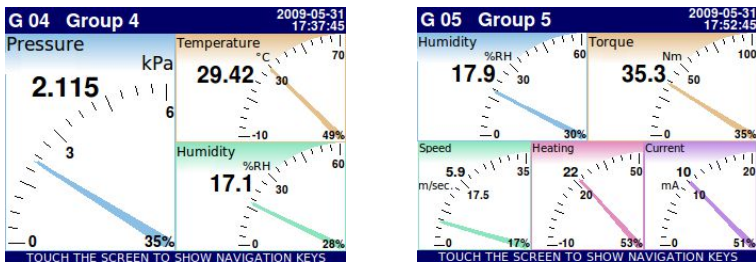

Fig. 6.13. Examples of **Needle Dials** for 3 channels and for 5 channels
- as needle dials **Fig. 6.13**